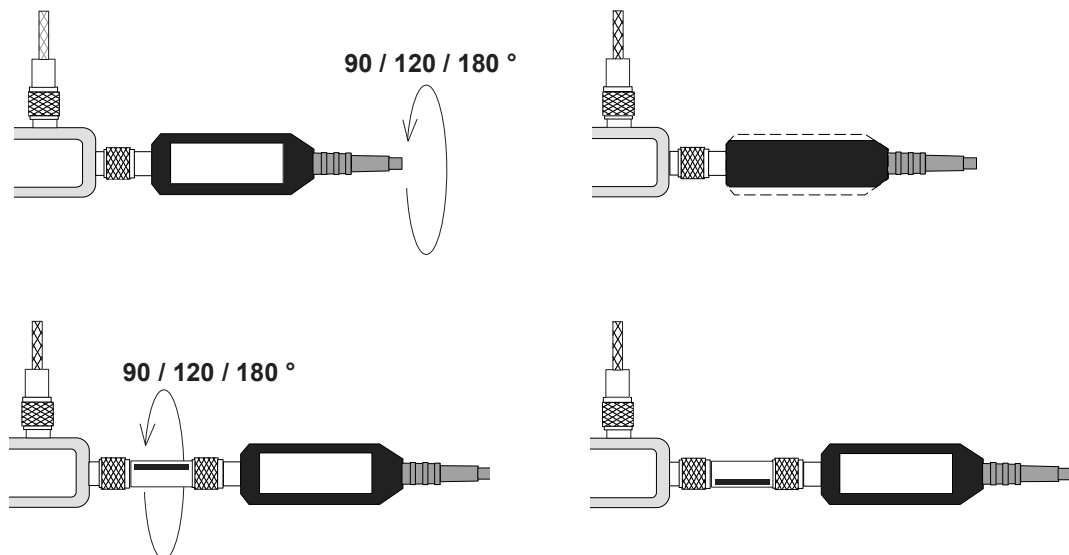

Fig. 3-5 Turning the sensor or attenuator before the next measurement cycle.
- Undo the RF connector and turn the sensor/attenuator by 90°, 120° or 180° (Fig. 3-5) depending on the number of cycles. Treat the power attenuator of the R&S® NRV-Z32/-Z33/-Z53/-Z54 sensors as the reference attenuator. Then press the **Ja** (Yes) button. Once the measurement sequence has been completed, the averaged power or voltage ratio is displayed as a red line in the diagram